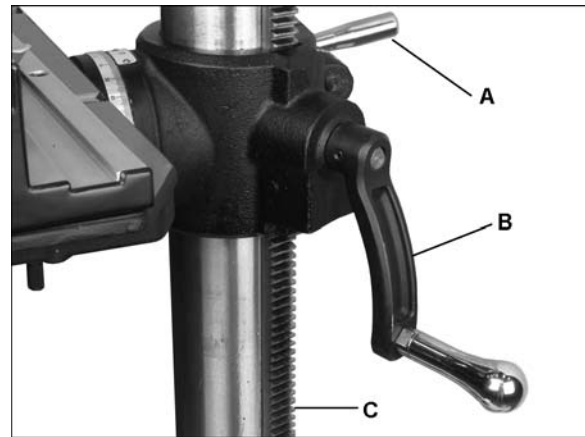

Figure 15
Referring to Figure 15:
Loosen column locking handle (A, Figure 15). Turn table elevating handle (B) to raise or lower table